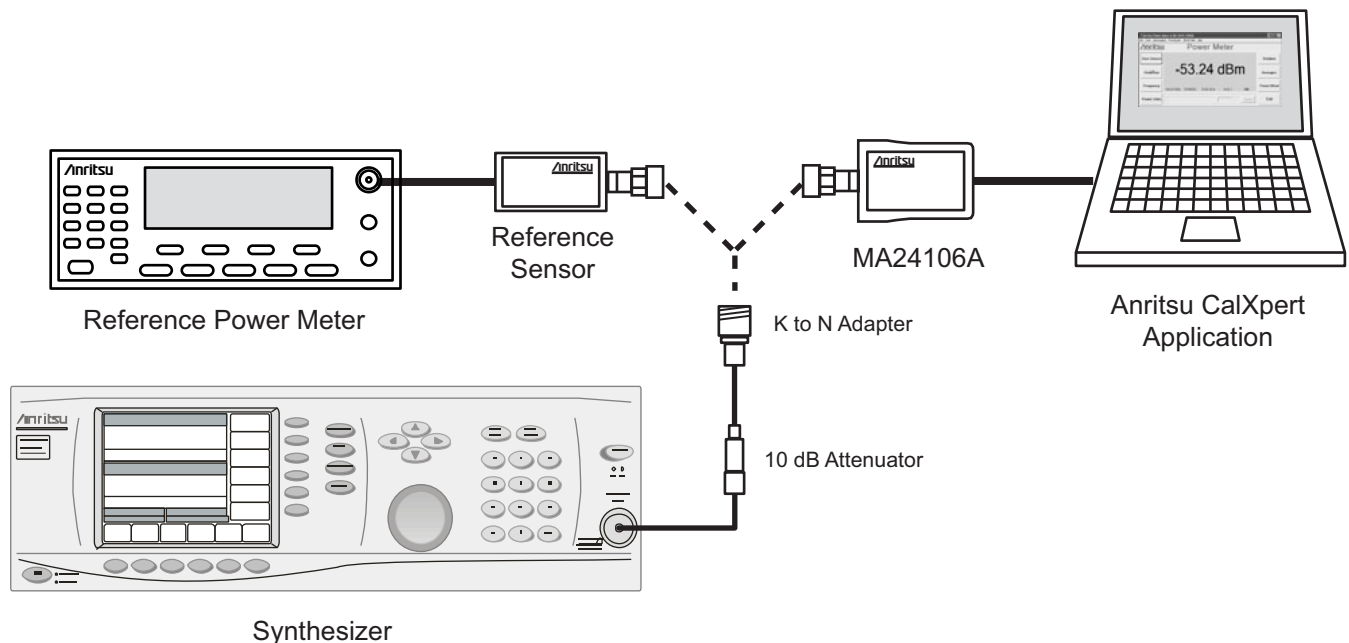

Figure 3-1. Range Connection Characterization Setup (typical)
1. Connect a reference sensor to the synthesizer as shown in Figure 3-1 below:
3. Connect the power sensor to the PC (Figure 3-1) and launch the MA24106A CalXpert wizard.